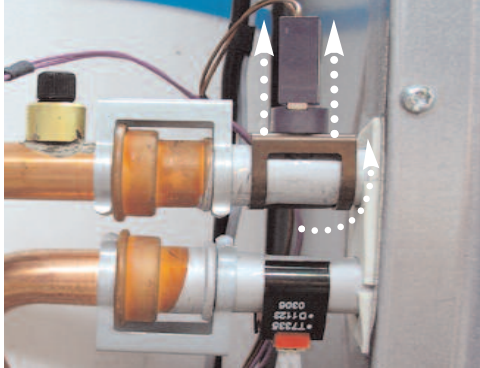

Fig. 18.73
2. Pull off the thermostat connections. Then remove the thermostat from the pipe by releasing its securing clip (see Fig. 18.73).